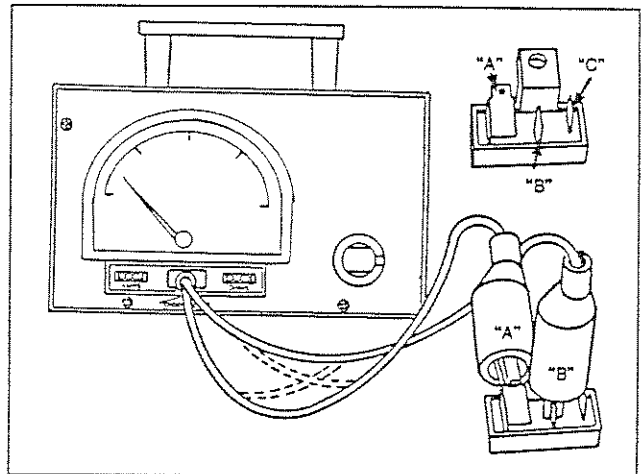

Figure 14. Testing I.S.D. Module (Steps 3-5)
3. See Figure 14. Connect the VOM positive (+) test lead to test point "A", the common (-) to test point "B".